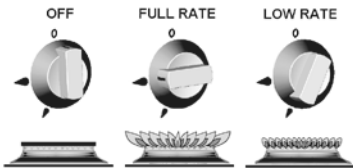

Fig. 1
3. To light: Push in the control knob and turn to full rate – see Fig.1. Hold a lighted match or taper to the burner and push the control knob in and hold. It is necessary to hold the knob depressed after the burner has ignited for approximately 10 - 15 seconds, to allow the thermocouple probe to reach temperature, before releasing the knob.
2. To light: Open door, pull out heat shield (Fig. 2) push in the control knob and turn to full rate – see Fig 1 (page 164). Hold a lighted match or taper to the burner and push the control knob in and hold. The burner should ignite and the control knob should be held in for 10 - 15 seconds before release.